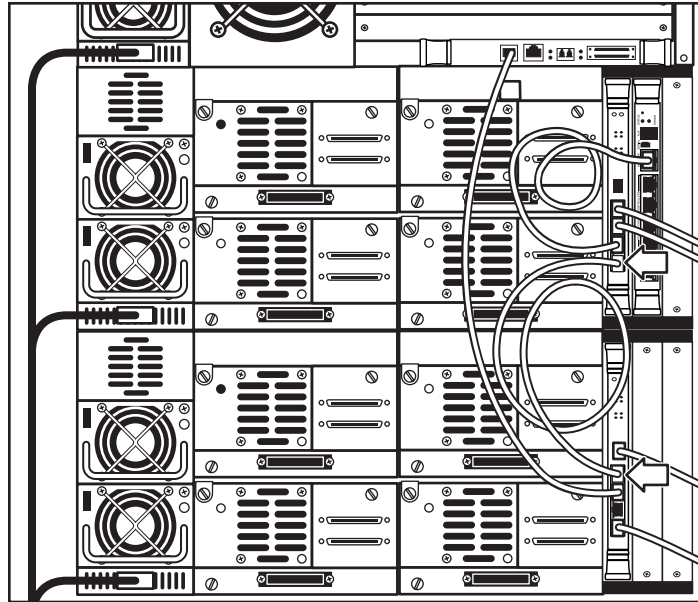

Figure 33: Daisy-chaining drive clusters
6. If more than one drive cluster is installed in the library, add the 1 ft (30.3 cm) gray Ethernet cable from Ethernet port “E4” on the cluster controller in drive cluster 0 to Ethernet port “E1” on the cluster controller in drive cluster 1 (see Figure 33).